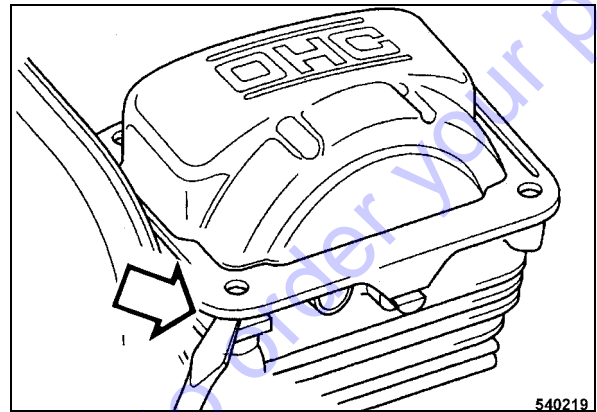

Fig. 45
- Insert the screw driver into the recess (Fig. 45) and take the cylinder head cover carefully off.